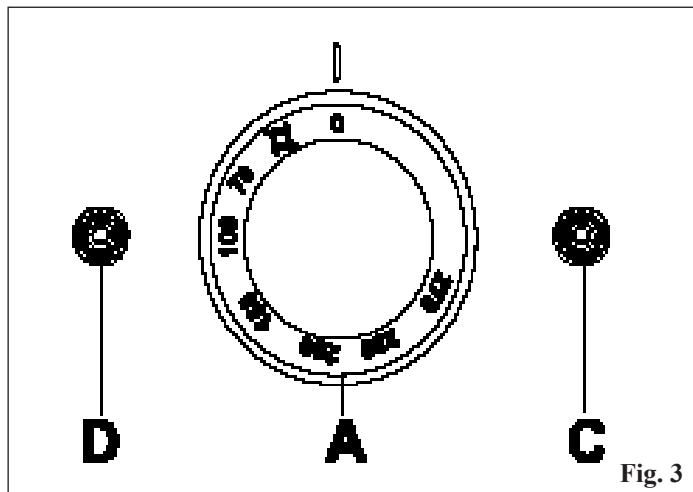

Fig. 3
Table II shows the types of gas and pressure for all burners and respective nozzles, the X mm distance for the adjustment of primary air (see Fig. 3), the idle screw (bypass), the pilot nozzle, the maximum and minimum pressure at nozzle, the maximum and minimum thermal capacity, and the gas consumption in l/hr (15°C) or in g/hr in the case of L.P.G.
The pressure socket Fig. 1 is located on the G 1/2" gas ramp behind the panel; undo the screw (A) of the pressure socket (B), attach the silicone rubber to the manometer, ignite the burner (Fig. 3 position 4) and take the incoming "dynamic" pressure. Fasten the screw (A) back with a gas washer (C), check gas sealing with bubble soap.
- Turn the knob (Pos. A - Fig. 3) clockwise onto the desired position.
- If the orange flash light lights up (Pos. C - Fig. 3), this means that the thermostat is working and that the oven is heating up. When the desired temperature has been reached (Pos. A - Fig. 3) the orange flash light goes off and food may be put into the oven.
Turn the control knob of the oven (Pos. A - Fig. 3) onto the desired temperature and wait until the temperature has been reached. Put the meat to be cooked directly onto the grill (on middle height), after rubbing it with a small amount of oil. Insert another shelf below the grill to avoid soiling the oven too much. The hot air ensures the proper cooking of the food on all sides and a fast browning, so that the meat remains moist inside. Therefore there is no need to turn the meat while it is cooking.
- Remove the two blocking dies (Fig.3 position 4) with a 4mm Allen-key.
- Lift the pilot burner's head (Fig.3 position 5).
- Using a size-5 spanner, replace the nozzle (Fig.3 position 4) of the pilot burner with one corresponding to the type of gas selected and following Table II Injectors Ch. 2.5
- Before installing the head (Fig. 3 position 5), adjust the primary air by turning its regulator (Fig. 3 position 6). Ignite the pilot and check the flame's length and quality, which should not be too weak nor too thin, but approx. 20mm long, almost detached from the head and without a yellow tip (L.P.G. gas).